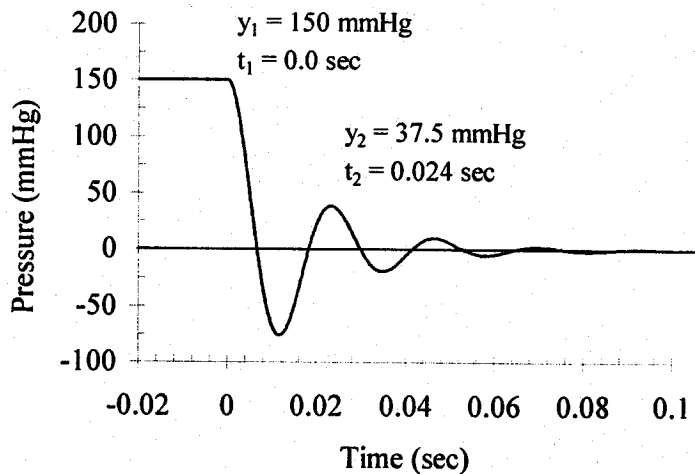

Figure 2
- (b) A pressure transducer yields the voltage output shown in Figure 2 for a step input of pressure (assume $K = 10$). Determine the following characteristics of the pressure transducer and sketch the bode plot labeling the numerical value of ω_n , y-intercept, and slope: